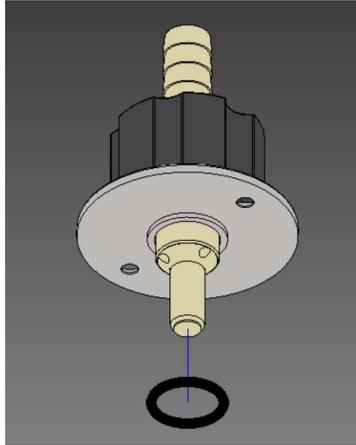

FIGURE F. 4. - O-RING REMOVAL
4. Remove the O-ring from the stem. Do not roll O-ring, as this may damage the O-ring. Gently work the O-ring off the stem (see Figure F. 4.)